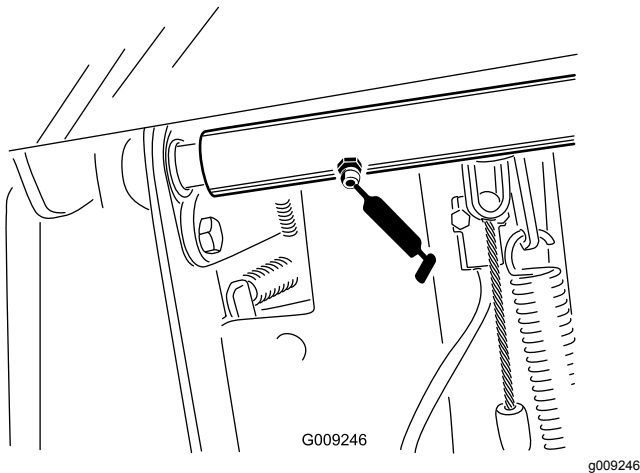

Figure 59
- Brake pedal pivot shaft bearings (2) (Figure 59)